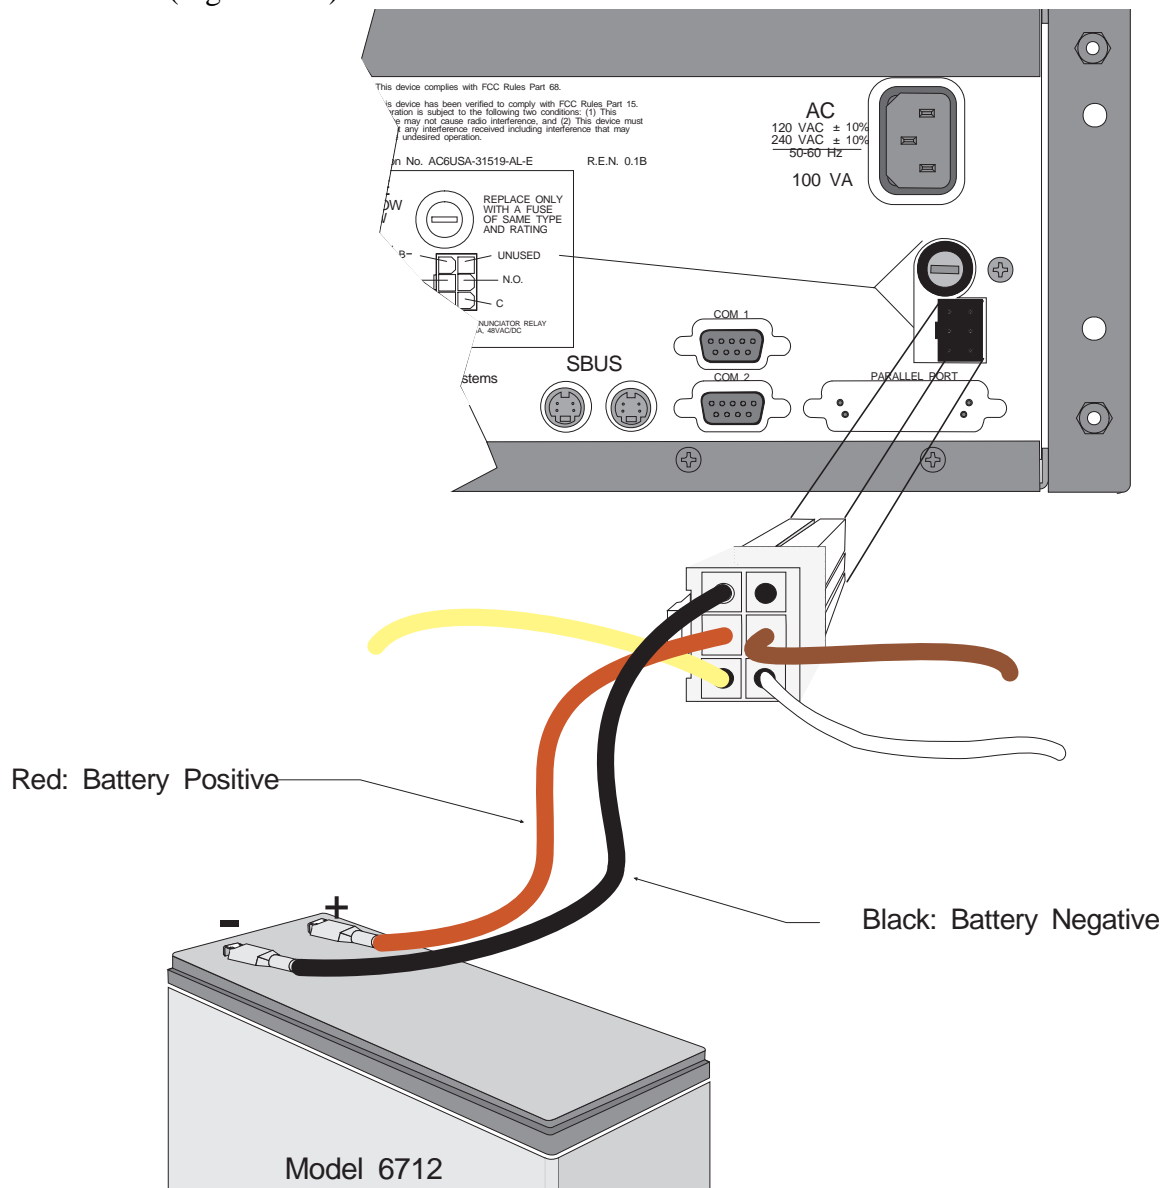

Figure 3-14 Battery Connections
4. Disconnect the back-up battery (Figure 3-14).
11. Reconnect the back-up battery (Figure 3-14).
1. Plug the battery/relay wiring harness onto the connector on the back of the CS-5000 receiver (Figure 3-14).